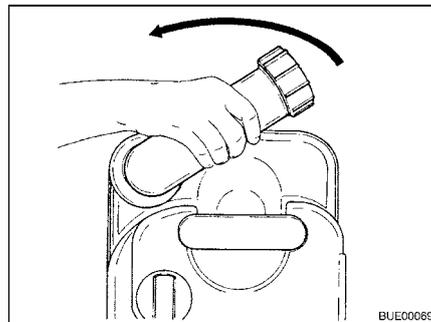

Fig. 178 Turning drainage neck
- Turn the drainage neck upwards (Fig. 178).